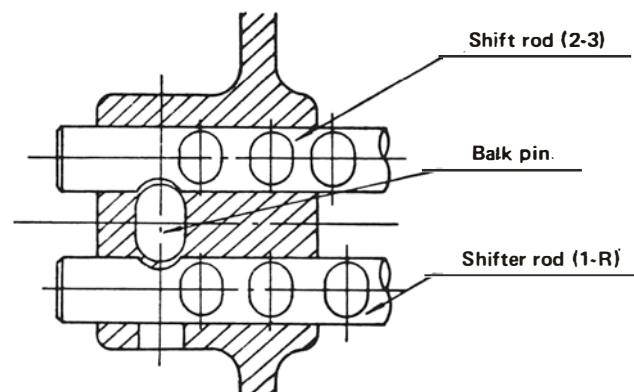

Figure 9
15. Insert the shifter forks in their respective grooves and insert the shifter rods. Make sure the balk pin is between the shifter rods 1-R and 2-3, see Figure 9.